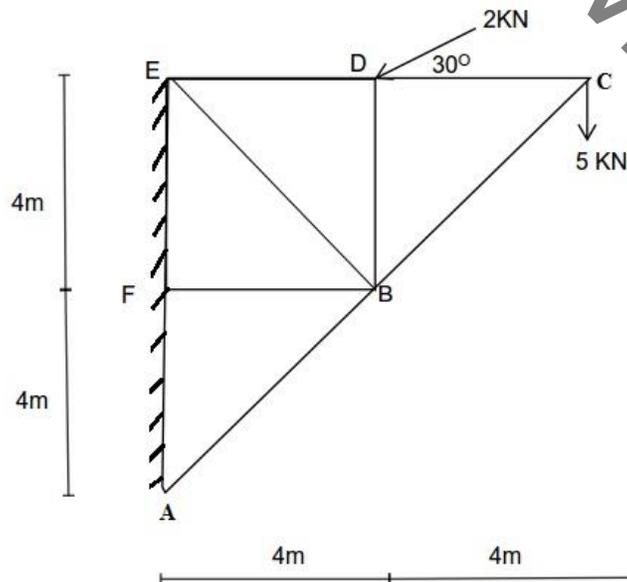

Figure: 2
2. Analyze the truss shown in figure 2 by method of sections. [15]